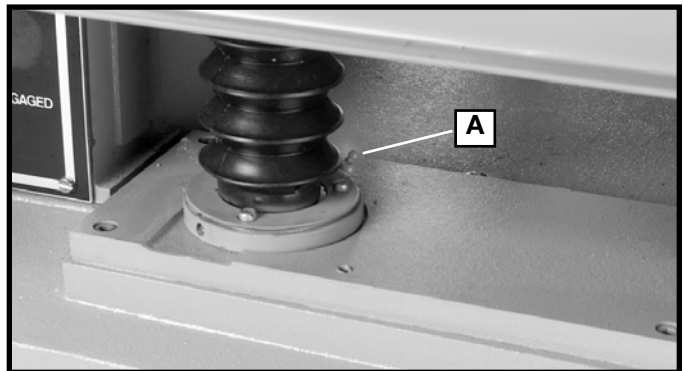

Fig. 41
1. The four grease fittings, one of which is shown at (A) Fig. 41, located at the base of the four table posts are to be lubricated every 100 hours of operation with an automotive type lithium grease or equivalent.